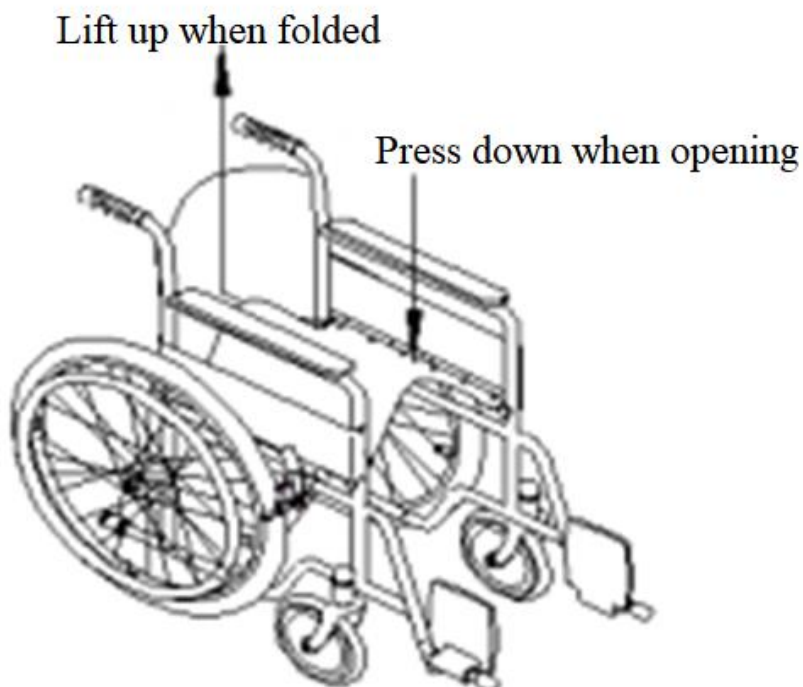

Figure 2
- When you open the wheelchair, you can press down on both sides or just one side of the seat, making it easy to open; when you fold the wheelchair, please raise the footrest first, then hold the cushion and lift it, making it easy to fold. (See figure 2)